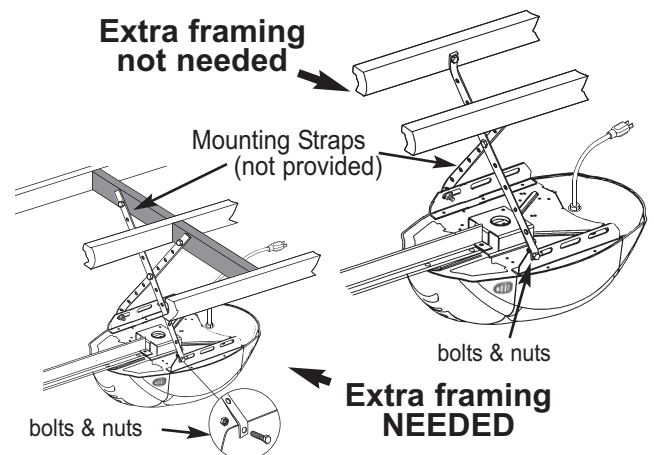

FIG. 2-6 Mounting the power head.
- On **finished** ceilings, locate ceiling joists or trusses using a stud finder or similar device. Attach angle iron (not provided) to joists or trusses through finish material using (provided) lag screws (**Fig. 2-6**).
- On **unfinished** ceilings or open ceilings, straps may attach directly to joists or trusses. Depending on the garage construction, extra framing material (not provided) which may be required should be installed using appropriate construction techniques (**Fig. 2-6**).
- Attach mounting straps (not provided) to ceiling using lag bolts (**Fig. 2-6**).
- Set height of power head to following (**Fig. 2-6**).